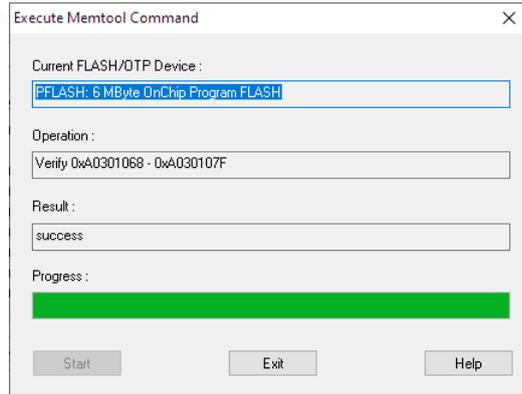

Figure 39 FLASH programming progress dialog
- Start flashing with the **Program** button. A progress dialog appears (Figure 39). After successful programming close both dialogs via **Exit**.